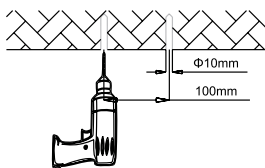

FIGURE 3
1. Mark with a pen or sharp tool on the mounting surface and drill (Figure 3).